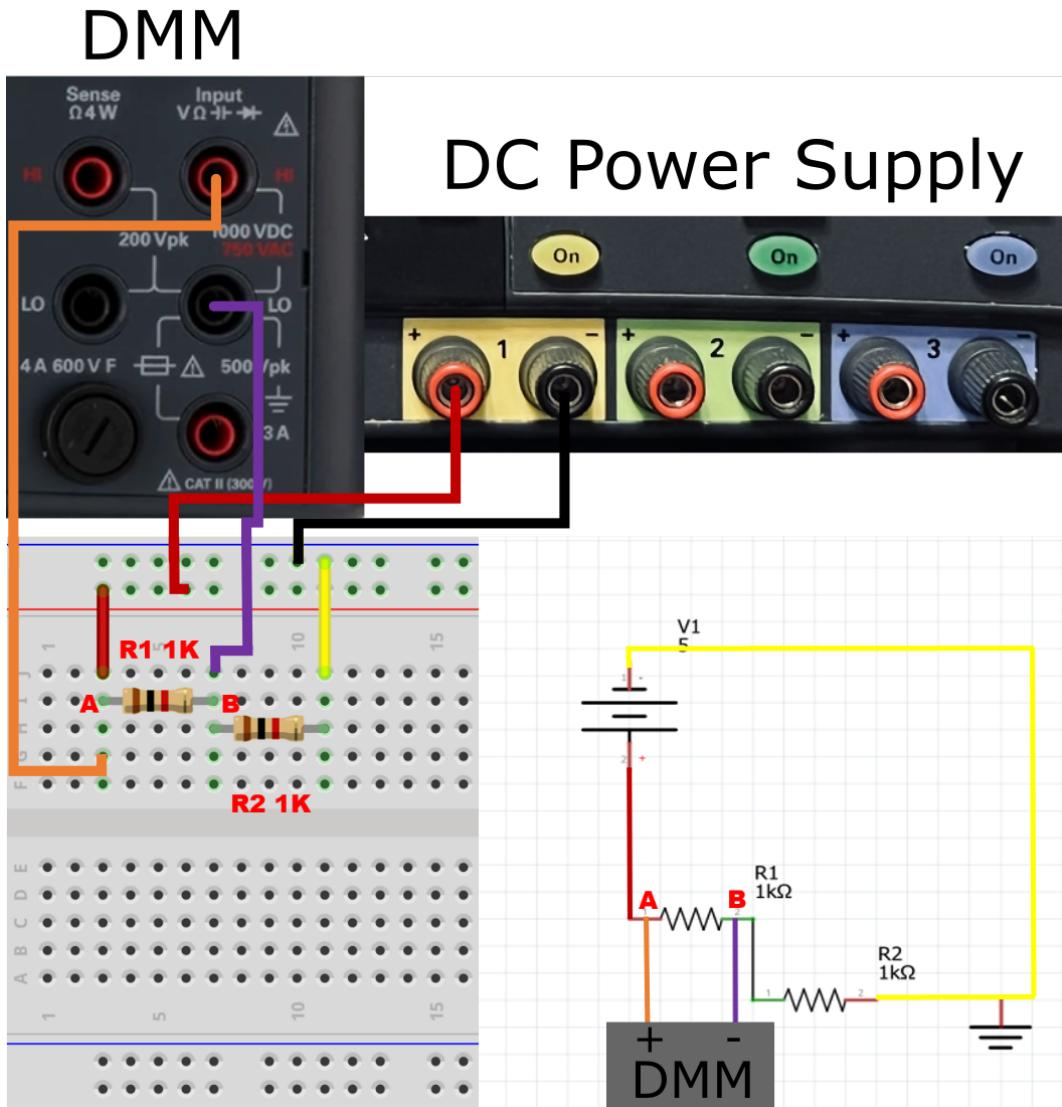

Figure 26: An example of circuit connection with schematic
1. Assemble the circuit in Figure 26 on a breadboard, using the schematic to guide you on how each component should be connected to the circuit.
In Figure 26, a 5V DC voltage from the DC power supply is placed across two equal resistors, R1 and R2 in series. The multimeter probes (port Input HI and Input LO) from the DMM is connected in parallel to resistor R1 (DMM and R1 share nodes A and B) to measure the voltage drop across R1.
2. Connect to the circuit to +5V from channel 1 of the DC power supply, the top red wire in Figure 26.
3. Connect the ground of the circuit to negative terminal from channel 1 of the DC power supply, the black wire in Figure 26.